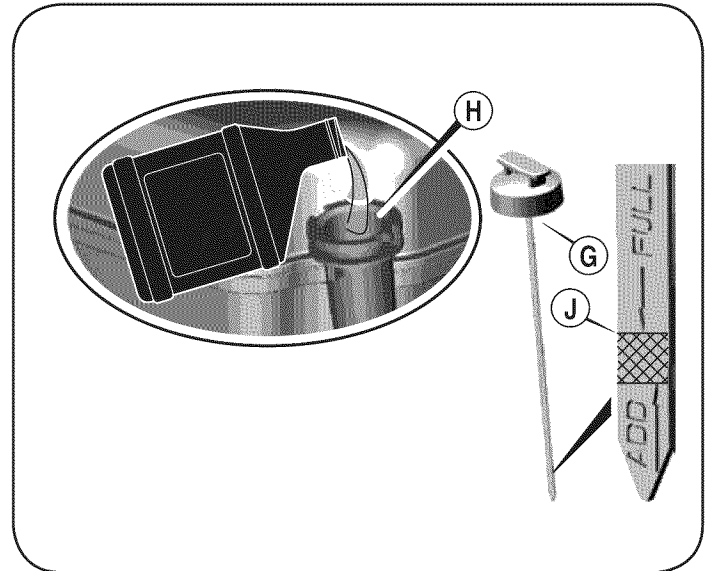

Figure 10
3. Insert and tighten the oil fill dipstick. Remove it to check the oil level. See Figure 10.
4. If the oil level is near or below the lower limit mark on the dipstick, remove the oil fill dipstick, and fill with the recommended oil to the upper limit mark (J). Do not overfill.